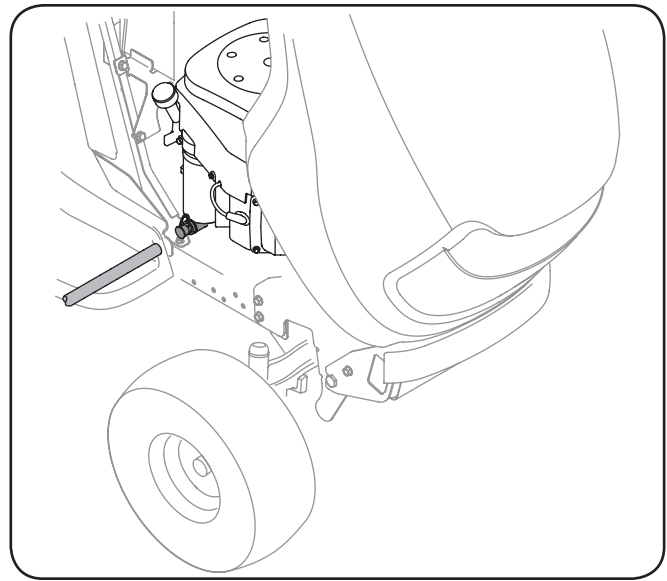

Figure 6-2
3. Pop open the protective cap on the end of the oil drain valve to expose the drain port. See Figure 6-2.